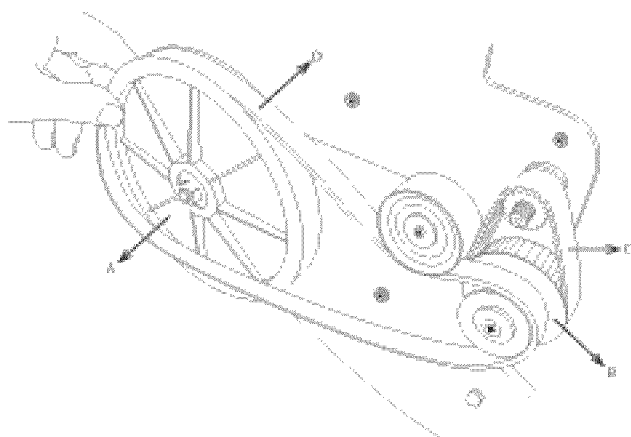

Figure 31
2. Lift the belt tension and roll the large belt off the big pulley (Fig. 31).
1. Remove the large belt first following the instructions detailed in the Large Belt section (Fig. 31).